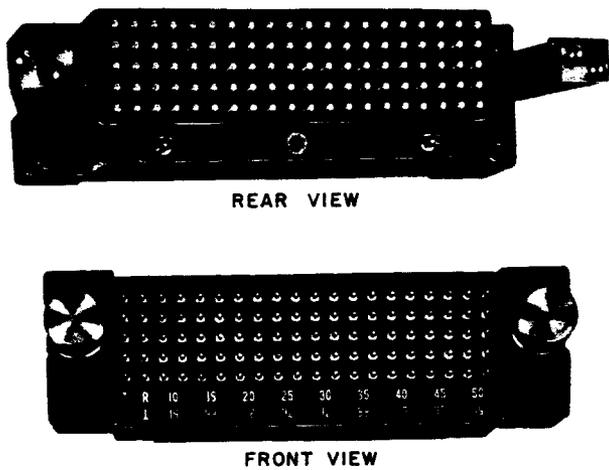

Figure 13—G Test Connector (AT-8353) — For 302-Type Connectors
2.14 The G test connector (Figure 13) is used to make test contacts with the 50 pairs of recessed, gold-plated test terminals on either of the two test terminal fields of the 302A4, 302B4, or 302E3 connector used on the double-sided protector frames. The test connector contains 100 (50 pairs) spring-loaded contacts. It has two sets of pair numbering, one inverted from the other for use on either test field of the connector.